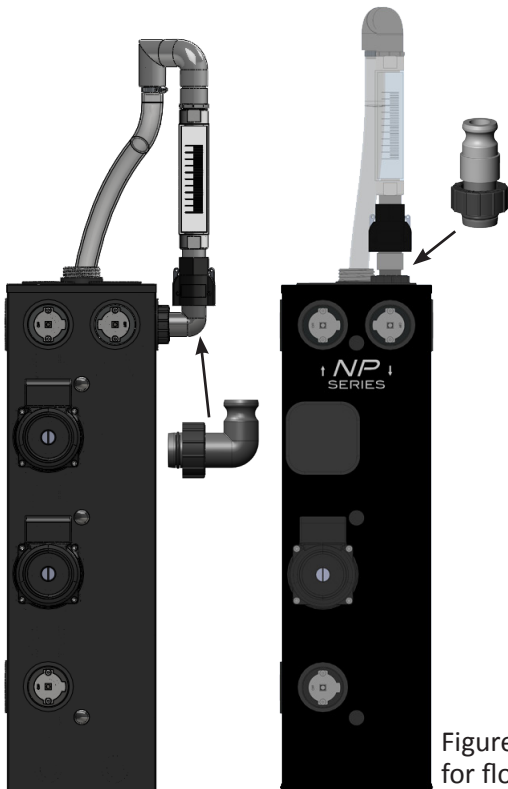

Figure 16: Geo-Meter tool used for flow rate measurement
1. Attach the Geo-Meter to valve #2 using a Flo-Link double O-ring x 1" CAM fitting and direct the flexible hose into the top of the tank (Figure 16).